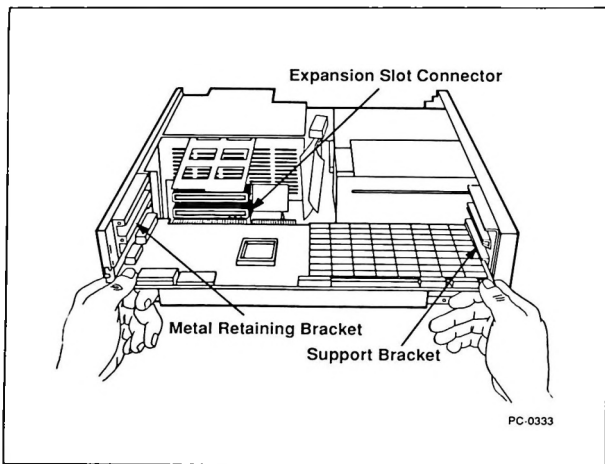

Figure 6-19 *Inserting the Above™ Board in a Model 30 expansion slot*
- 8 Line up the Above Board so the metal retaining bracket fits into the exposed cutout and the edge opposite the metal retaining bracket fits into the support bracket inside the front panel of the computer. Hold the board at each corner of the top and push firmly as shown in Figure 6-19.